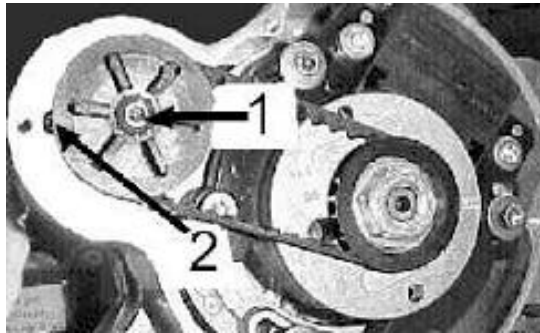

Figure 24
9. Remove belt retainer screw using a 1/8" hex key. (Figure 24 - item 1)
11. Remove bearing retainer screw using a 3/32" hex key. (Figure 24 – item 2)